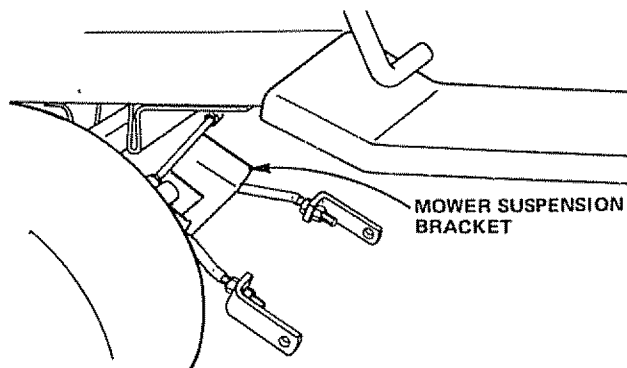

FIGURE 11
4. Remove band from Mower Suspension Bracket (Fig. 11).
Your tractor has been shipped with the Mower Suspension Bracket banded to the frame. Remove bands and lower Mower Suspension Bracket (Fig. 11).